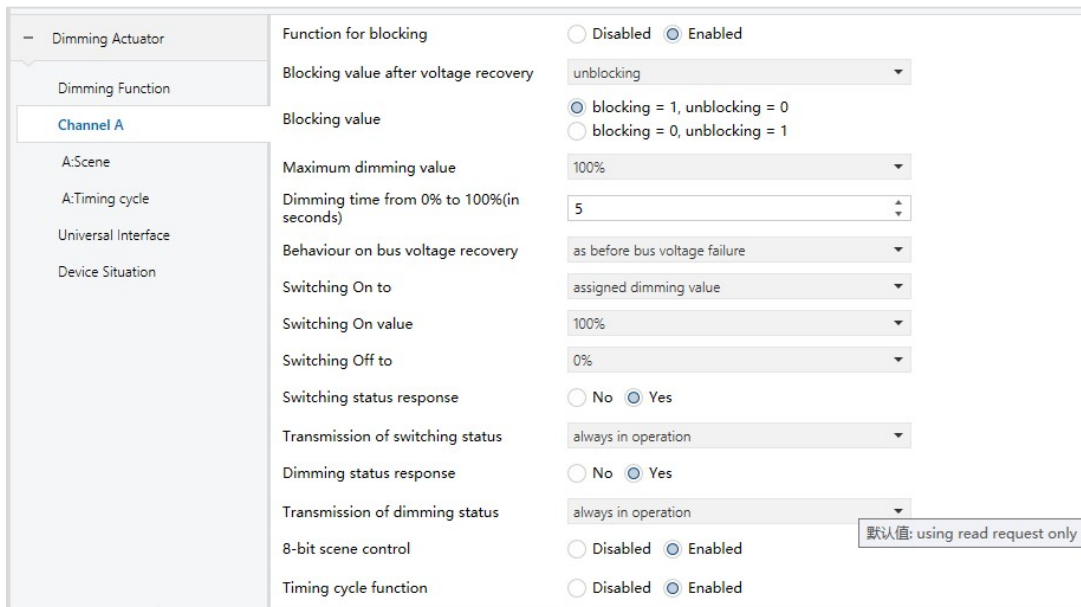

Figure 6.1.3
3) Click the options in the red block above to set the parameters of each circuit. Take Channel A as an example, as shown in figure 6.1.3